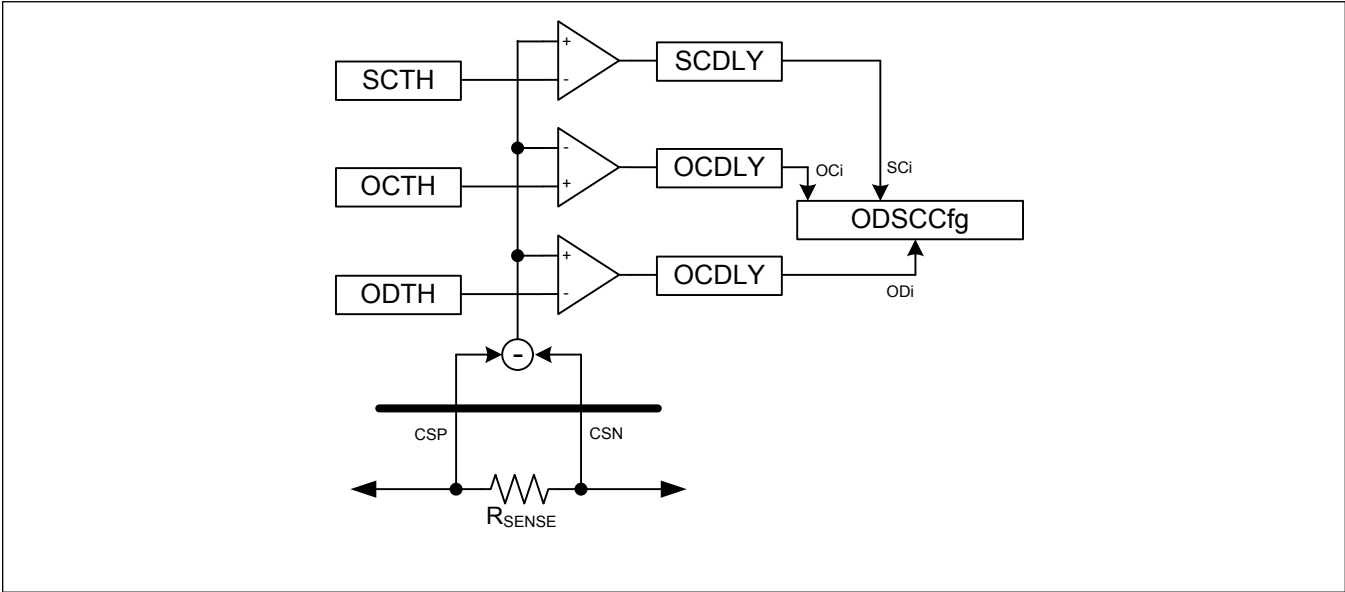

Figure 5. Overcurrent Comparator Diagram
The MAX1730x/MAX1731x contains three programmable fast overcurrent comparators called Overdischarge (OD), Short-Circuit (SC), and Overcharge (OC) that allow control protection for overdischarge current, short-circuit current, and overcharge current. These comparators have programmable threshold levels and programmable debounced delays. See Figure 5.